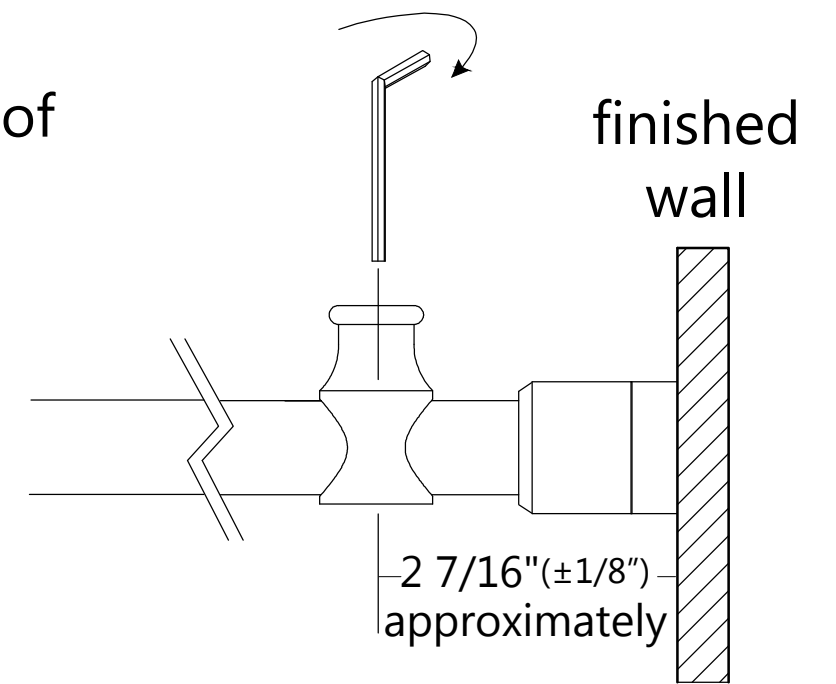

Fig 17a
1、 On one side of **Door Glass (D)**, the center of **Door Stoppers (K)** is about $[2 \frac{7}{16}]$ feet from the finished wall. **(Fig 17a)**